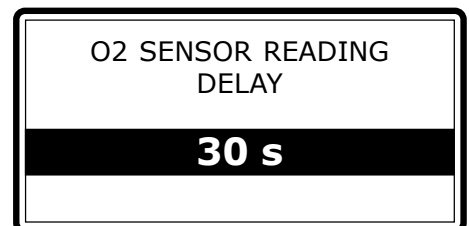

Fig. 29
- count the time elapsed between engine start and the point at which the voltage begins to toggle between 0,8 V and 0,2 V. This is the value that is to be entered in the "**O2 SENSOR READING DELAY**" (Fig. 29). We recommend adding a few seconds to this value. With this programming, the LEONARDO ignores the Oxygen Sensor signal for the time programmed, and keeps the stepper motor at its DEFAULT value. The LEONARDO becomes operational after the oxygen sensor has been "unlocked" by the E.C.U..